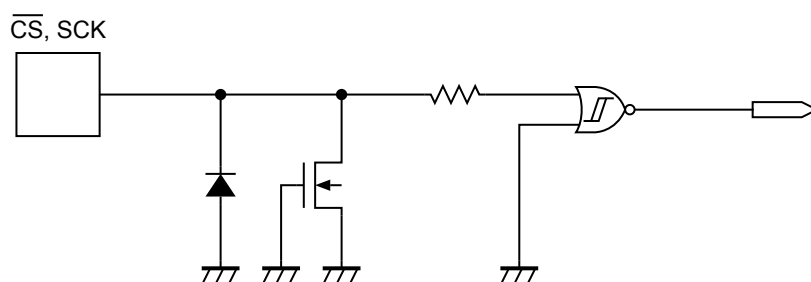
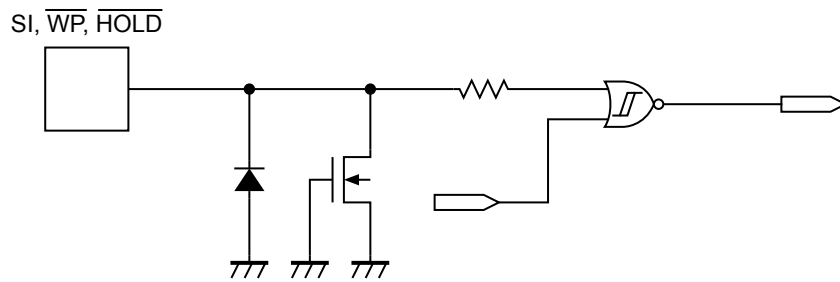

Figure 20  $\overline{\text{CS}}$ , SCK Pin
Figure 21 SI,  $\overline{WP}$ ,  $\overline{HOLD}$  Pin
**Figure 20** and **Figure 21** show the equivalent circuits of input pins in this IC. A pull-up and pull-down elements are not included in each input pin, pay attention not to set it in the floating state when you design.